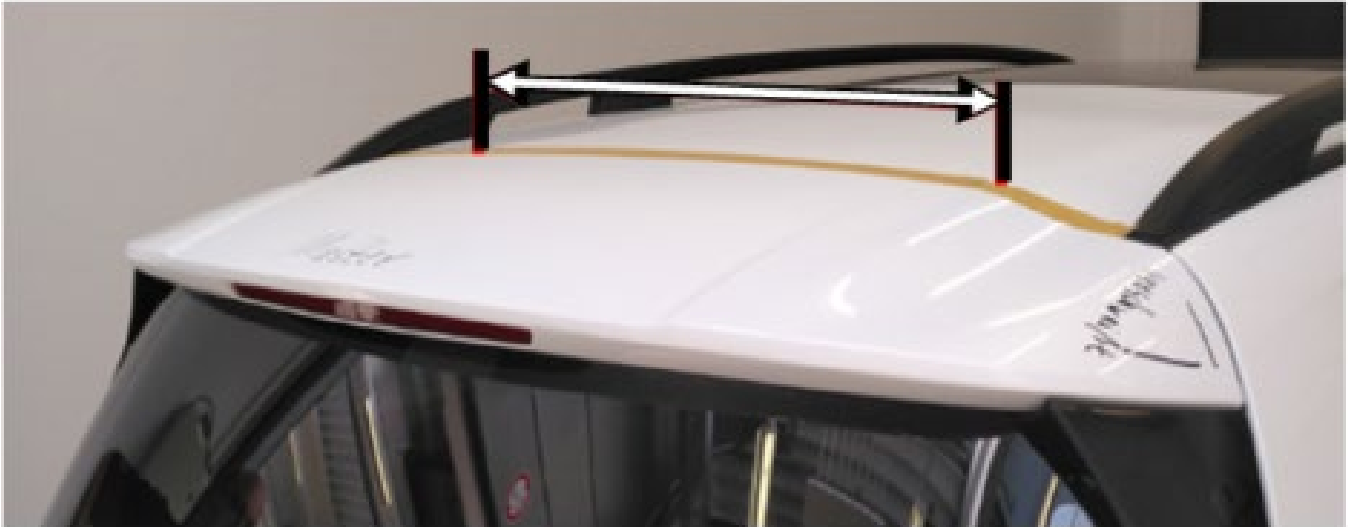

Figure 1
1. Open tailgate and apply masking tape to roof edge between left and right roof railings. **(Figure 1)**